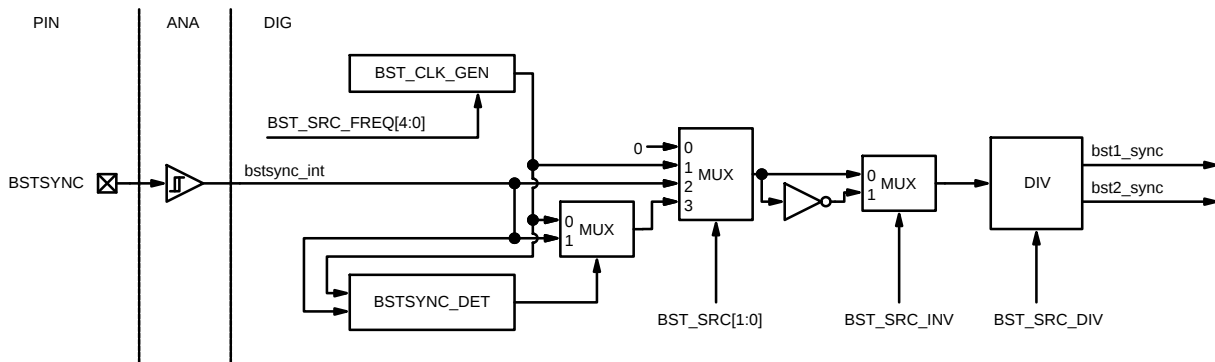
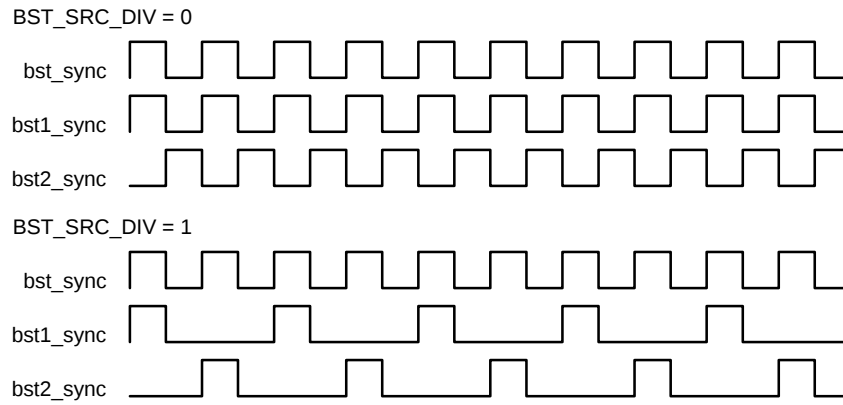

Figure 20. NCV78964 Booster Frequency Generation Block
Figure 21. PWM Generator Clock Divider
When register BST_SRC = 3, the automatic booster PWM clock selection is activated. Switch sequence to internal clock is initialized when no rising edge on external source (bstsync_int on Figure 20) is detected within 3 consecutive rising edges of internal bst_sync clock. For this purpose, internal clock should be set to similar frequency as external source to ensure smooth transitions. Switch sequence to external clock is initialized when rising edge on external source (bstsync_int) is detected.
2. To synchronize the MOSFET gate PWM clock and needed phase shifts, the boosters must use the external clock generation (BSTSYNC), generated by the board MCU or external logic, according to the user-defined control strategy. The generic number of lines needed is equivalent to the number of devices. When two chips are combined, the slave device shall have BST_SRC_INV bit at '1' (clock polarity internal inversion active), whereas the master device will keep the BST_SRC_INV bit at '0' (= no inversion, default). On top of that, to get four phases with phase shift, the BST_SRC_DIV bit has to be at '1', meaning that gate clock is divided by two (please see Figure 20 and Figure 21 for more details).